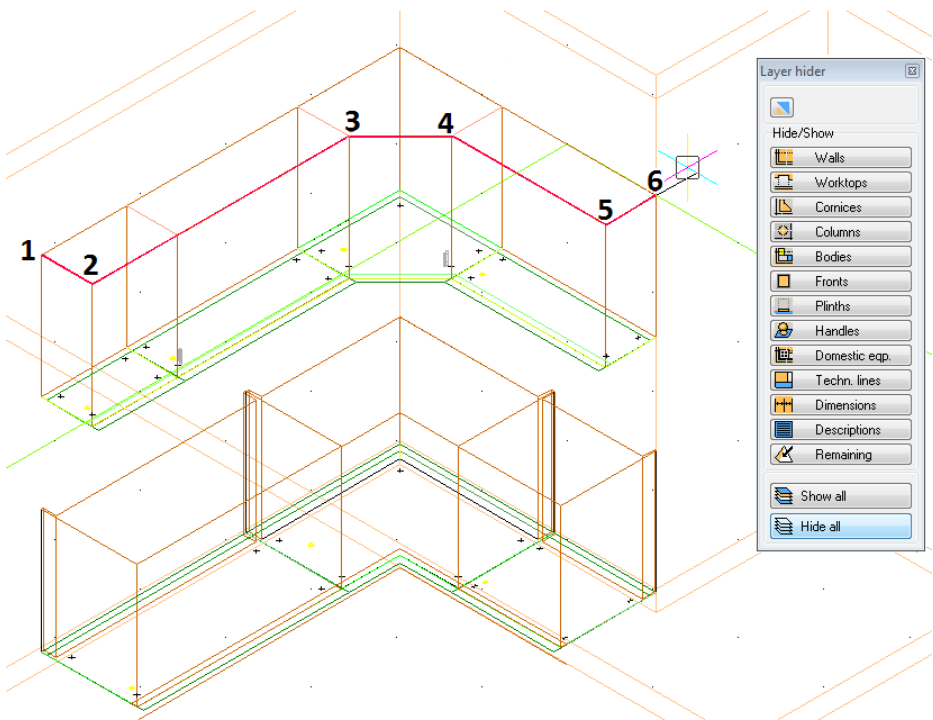

Fig. 234 – drawing a polyline on upper cabinets and Show – hide element window
- prepare the drawing so that the elements blocking the view are hidden, and in the case of upper cornices, so that the fronts are removed from the cabinet - in order to do so click the  - **Show — hide element** icon in the **CAD-Kitchen** toolbar and then select the **Fronts** button in the **Layer hider** window (Fig. 234);